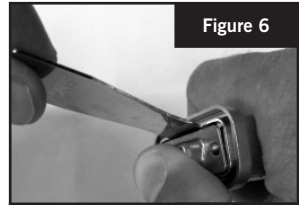

Figure 6
10. Place installation key between waterproof hood and D-sub connector and gently pry the hood while pushing the D-sub into the slot. (See figure 6, next page)